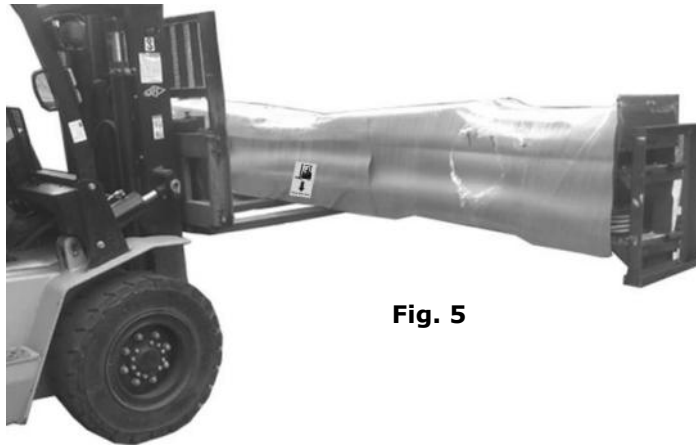

Fig. 5
1.The equipment should be unload and transfer by forklift. (See Fig.5)